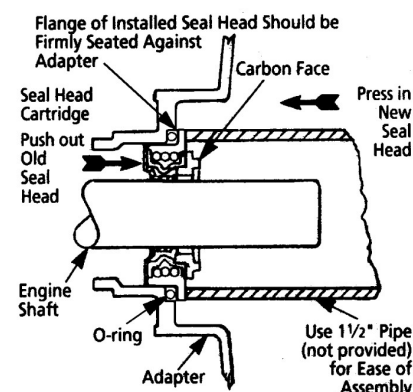

Figure 2 - Mechanical Seal Replacement
11. Place adapter seal (O-ring) onto seal head behind flange and press assembly into adapter as shown in Figure 2.